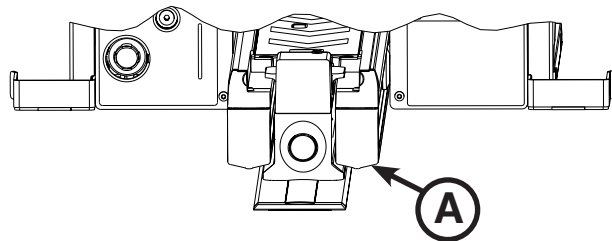

Figure 24: Dead Stop Bumper Hump
Note: Position the dead stop bumper, so that the hump (A) is on the bottom as shown in Figure 24.